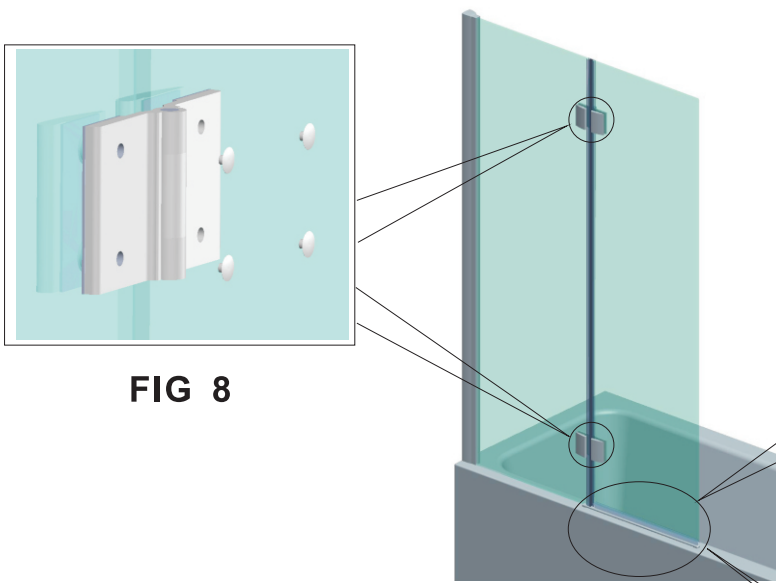

FIG 8
8. Fix the cover cap(M7012) to both hinge. **Fig 8.**